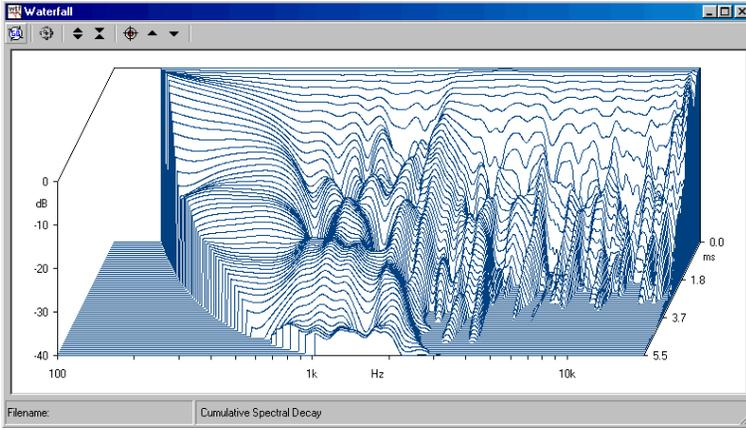
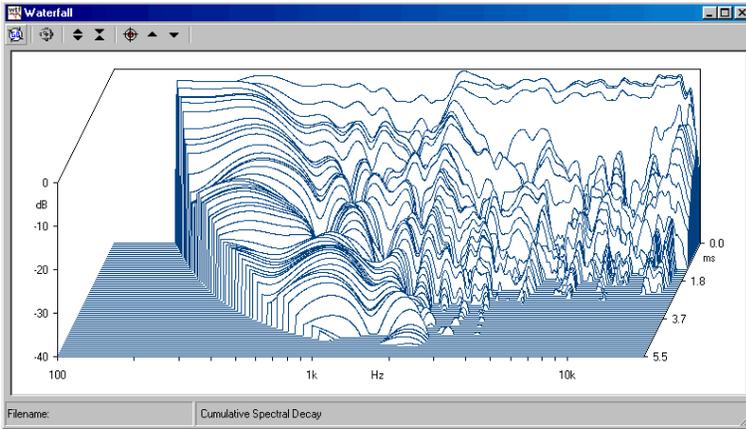

Figure 12.8
Figure 12.9
Let's now change the CSD aspect again. Go to the waterfall settings dialog and check the Reference box. After recalculating, you obtain the plot in Fig.12.8; as you notice now the slices are referenced to the first one (the rearmost); decays of different frequency regions can now be more easily compared. Now change the Windows Rise Time from the default 0.58ms to 0.1ms and recalculate the CSD. The result is given in figure 12.9.
- 3) Recall the turntable control dialog (Fig.12.9), set Resolution at 5° , Speed at 0.75 RPM and press Link To Measurement